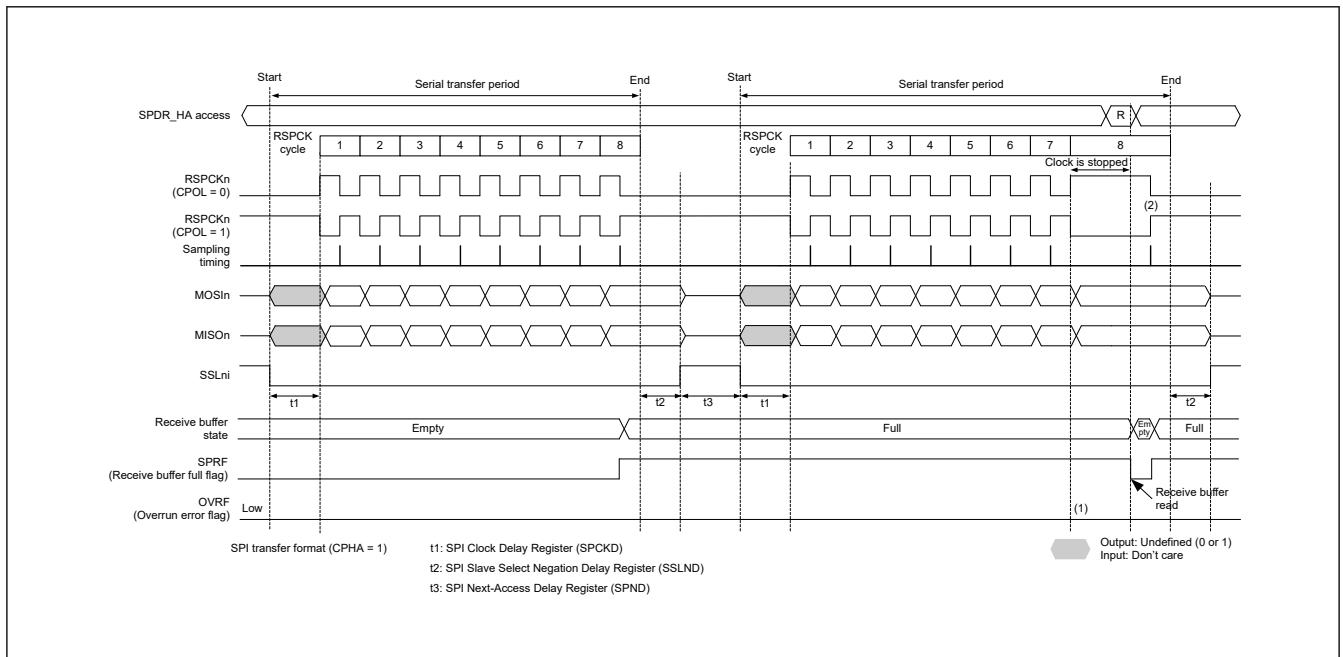
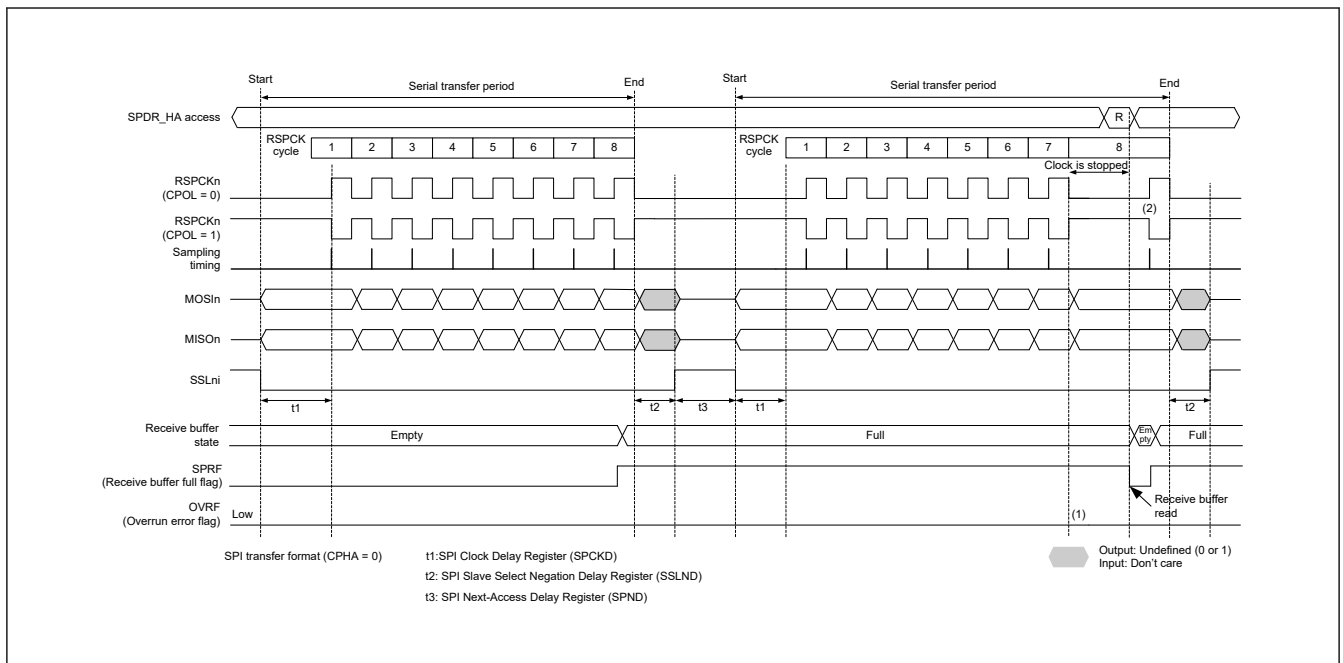

Figure 30.38 Clock stop waveform when serial transfer continues while receive buffer is full in master mode (CPHA = 1)
Figure 30.39 Clock stop waveform when serial transfer continues while receive buffer is full in master mode (CPHA = 0)
When the RSPCK auto-stop function is enabled (SPCR2.SCKASE = 1) in master mode, an overrun error does not occur. Figure 30.38 and Figure 30.39 show the clock stop waveform when a serial transfer continues while the receive buffer is full in master mode.
The operation of the flags at timings (1) and (2) in Figure 30.38 and Figure 30.39 is as follows: